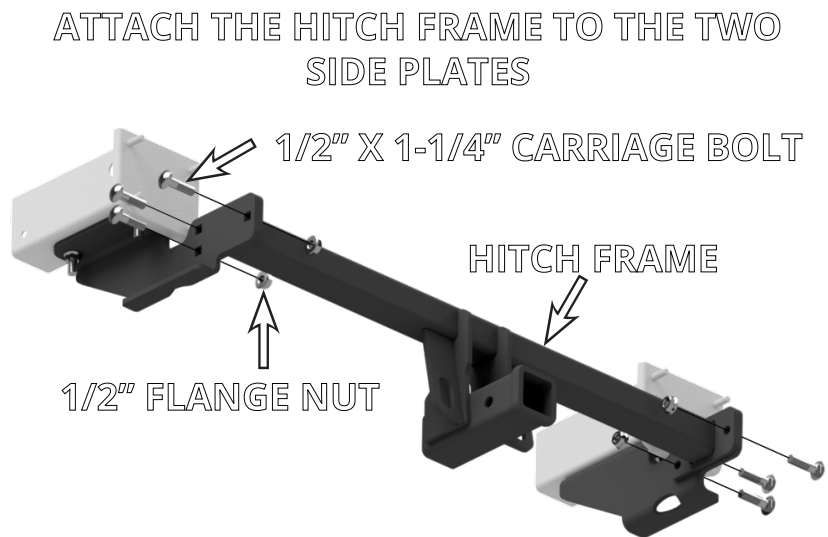

FIGURE B2: VIEW UNDER THE REAR OF THE VEHICLE
6. Raise the hitch frame between the side plates, as shown in Figure B2. Use six 1/2" x 1-1/4" carriage bolts and six 1/2" flange nuts to secure the hitch frame to the side plates.